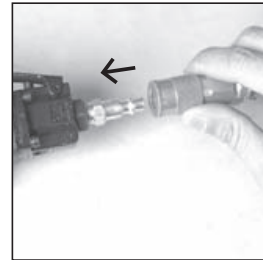

Figure 7
3. Remove the air cap from the tool air inlet and mount the male plug. Connect the air supply hose to the tool. Set the air pressure at 90 PSI. (See Figure 7)